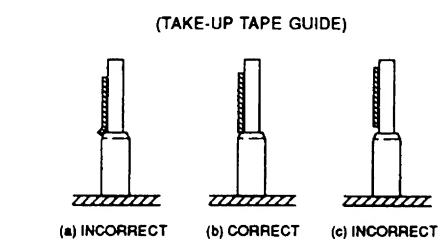

Fig 27.
- 4: Slightly turn the (A) screw until the tape edge barely touches the lower part of the TAKE-UP TAPE GUIDE without any curl or wrinkle as shown in Fig 27.
- 5: Adjust the head azimuth again. (Turning the (C) screw, or (A) screw, will cause head azimuth mis-alignment. (Refer to Azimuth adjustment.)